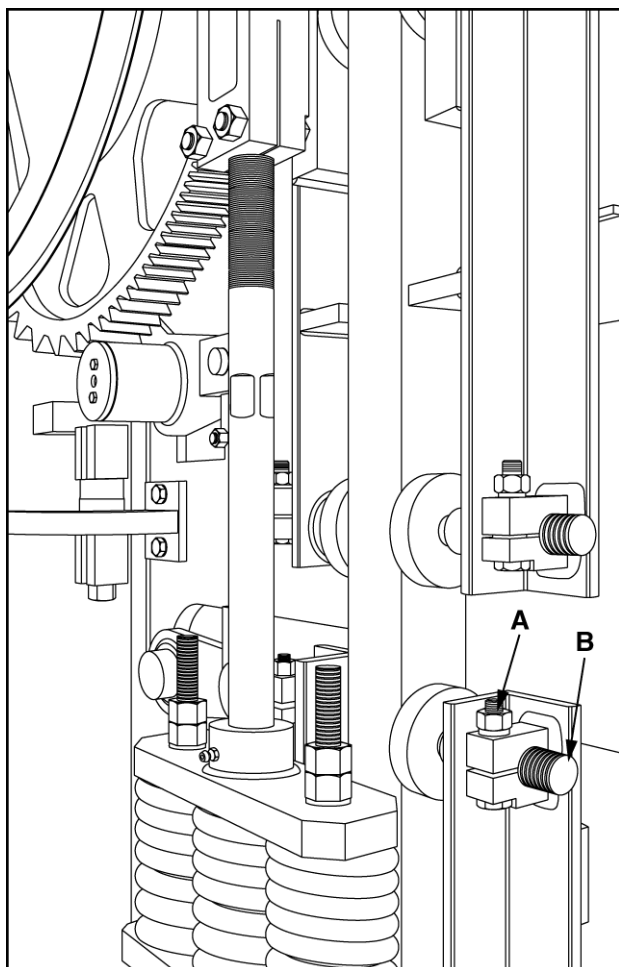

Figure 5.19 UPPER GUIDE LINER ADJUSTMENT SCREW
- To make the following adjustments (see figure 5.19):
- Loosen the nut (A).
- Adjust the guide liner (B) as desired.
- Tighten the nut (A).